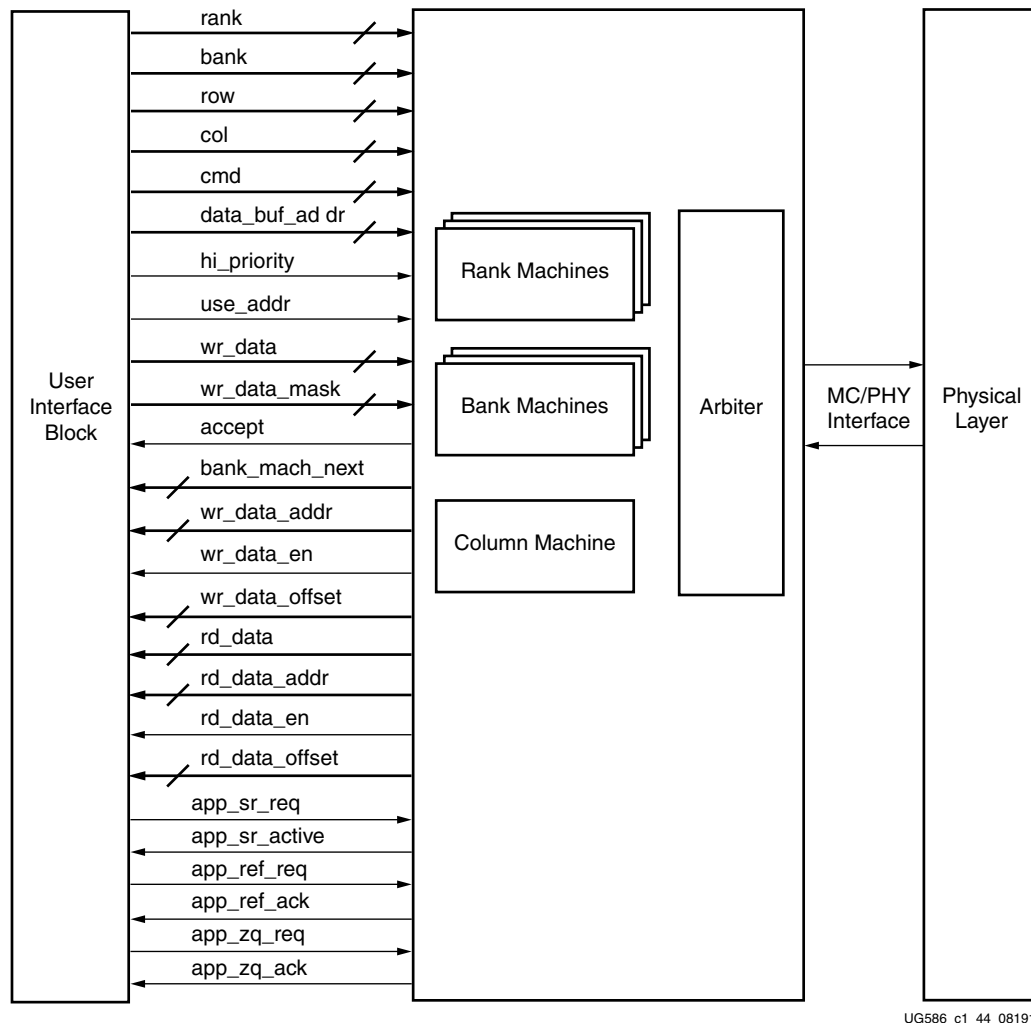

Figure 1-51: Memory Controller
In the core default configuration, the Memory Controller (MC) resides between the UI block and the physical layer. This is depicted in Figure 1-51.